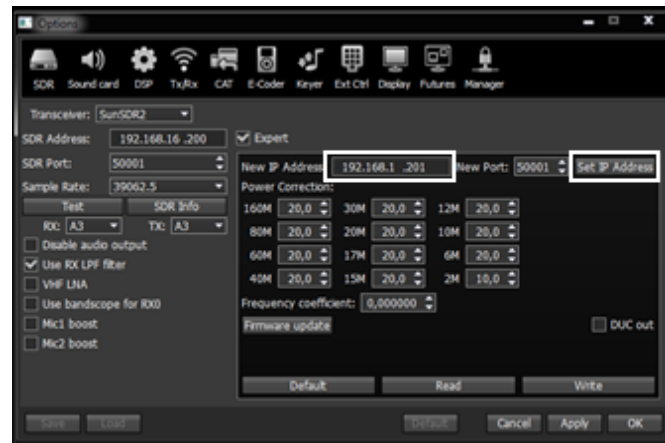

Figure 5.2 – New IP-address setting in SunSDR2 transceiver
- 2) Tick off **Expert**. Then in the field **New IP Address** put new IP-address, in our case it's **192.168.1.200**, and push **Set IP Address**. After this action transceiver will be available by new address **192.168.1.200** (view Figure 5.2).